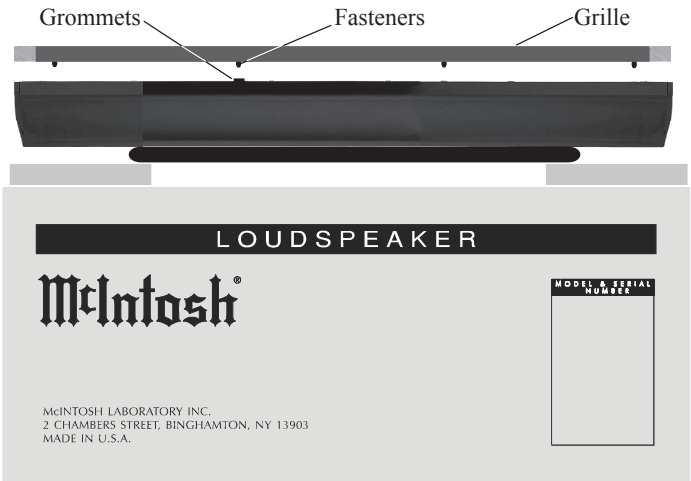

Figure 12
- Rotate the XCS350 Loudspeaker over with the front facing up, being careful not to damage the Loudspeaker Drivers. Refer to figure 12.